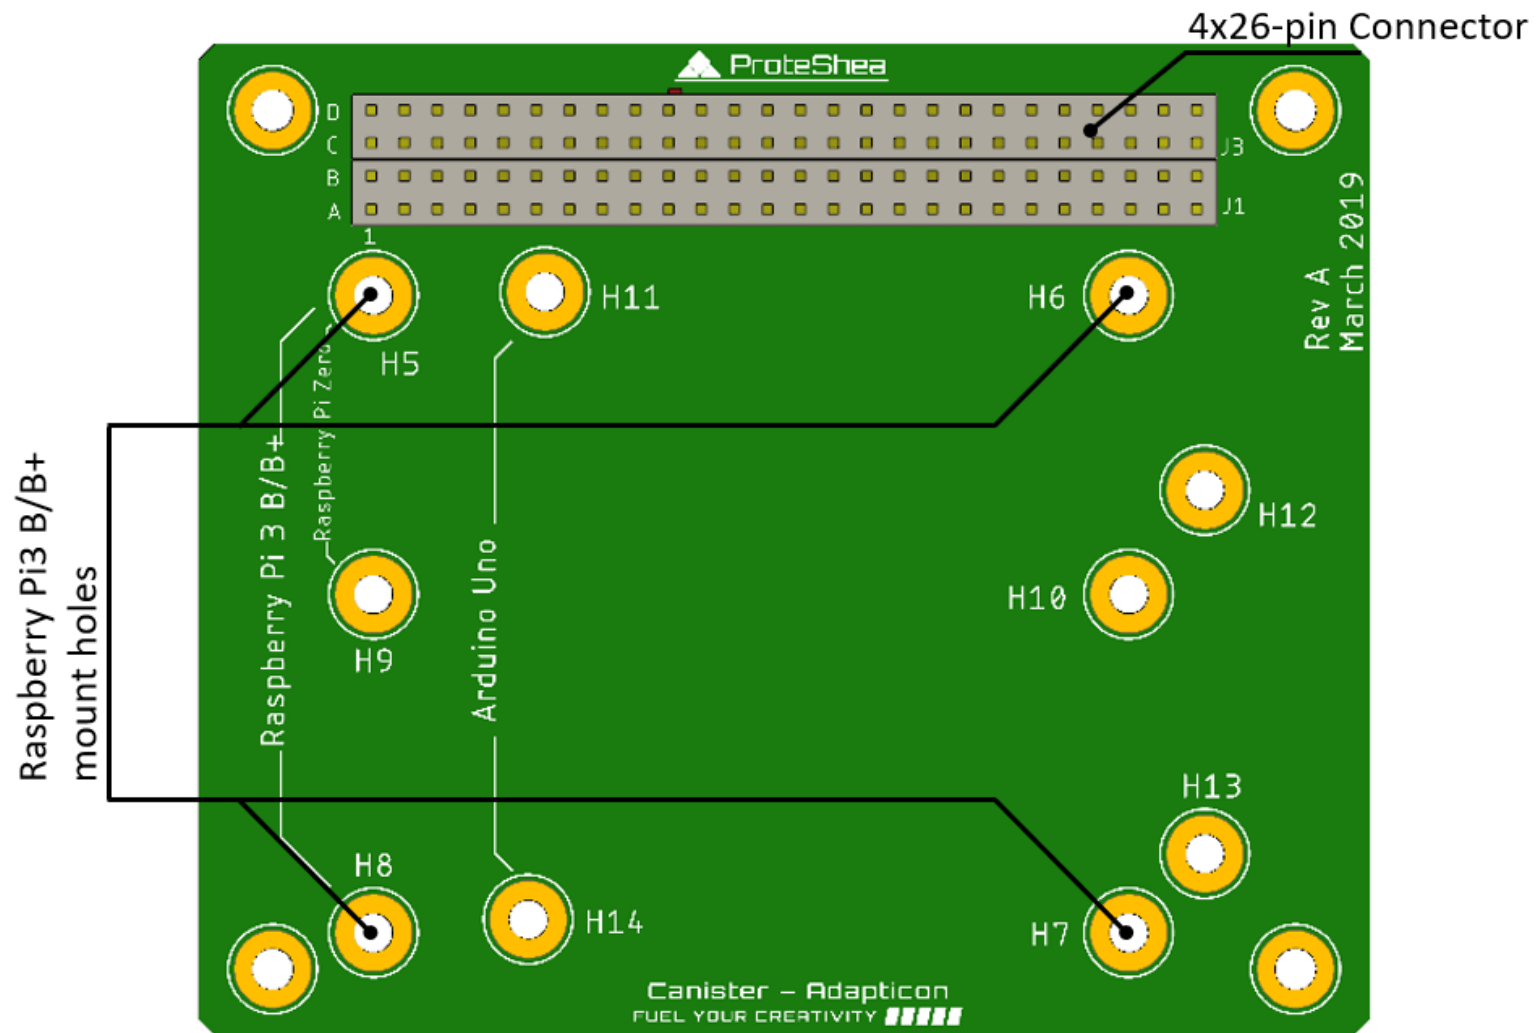
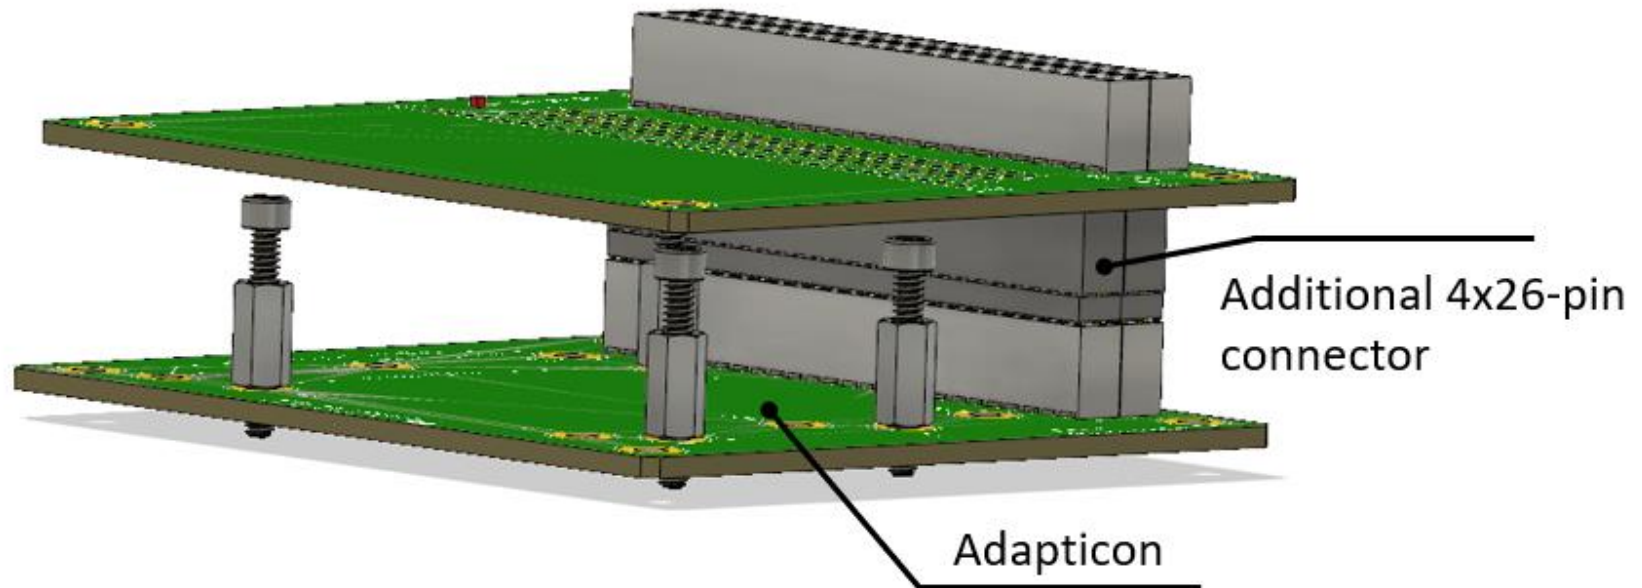

Figure 2. Raspberry Pi 3 B and B+ Mounting Holes.
Figure 7. Stacking Canister on Top of Adapticon.
Table 3 shows the pinouts for the 4x26-pin connector which is the receptacle header shown in Fig. 2. Jumper wires can be used to connect from this header to selected development board (i.e. Raspberry Pi 3 B/B+ or Arduino Uno Rev3).
3. Mount development board to Canister using the mount hole descriptions in Fig. 2, 3, and 4. Use provided standoffs, screws, and hex nuts as shown in Fig. 7.